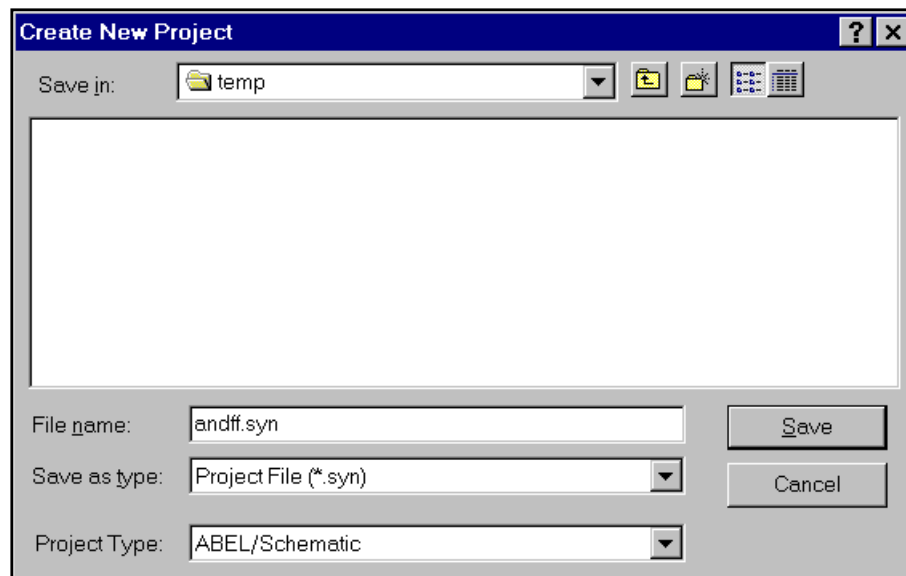

Figure 3-1. Create New Project Dialog Box
2. Select **File** ⇒ **New Project**. The Create New Project dialog box (Figure 3-1) appears.